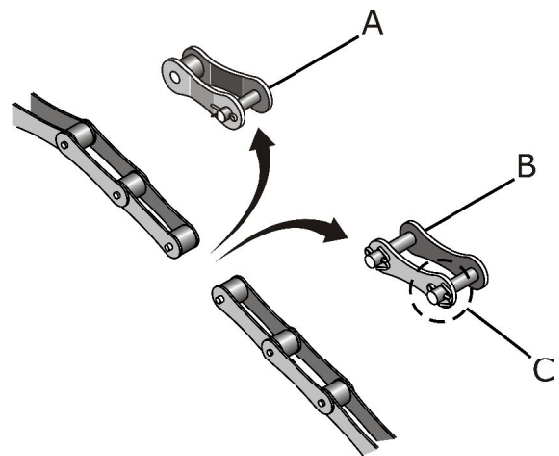

fig. 15
The transmission chains are factory pre-adjusted according to the distance between the axles of the sprockets. Eventually if need some maintenance or repair connecting links (B) or reduction links (A), remove the cotter pin (C) (fig. 15), making withdrawal of the number of connecting links, reduction links or free links.